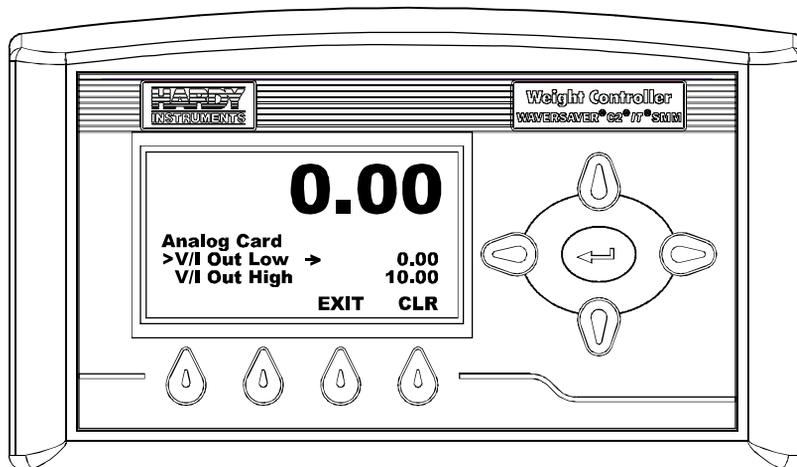

FIG. 148 V/I OUT LOW/SETTING LOW OUTPUT
Step 4. Press the down arrow button until the cursor is in front of “V/I Out Low”. (See Fig. 148) Keep in mind that Channel 1 and Channel 3 are 0-10 Voltage Channels.